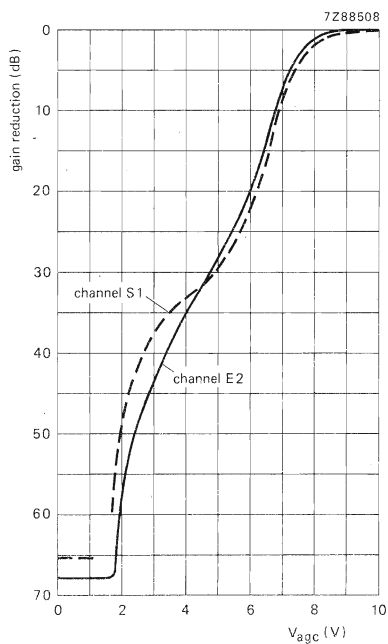

Fig. 4 Typical a.g.c. characteristic, low v.h.f.
A.G.C. voltage (Figs 4, 5 and 6)